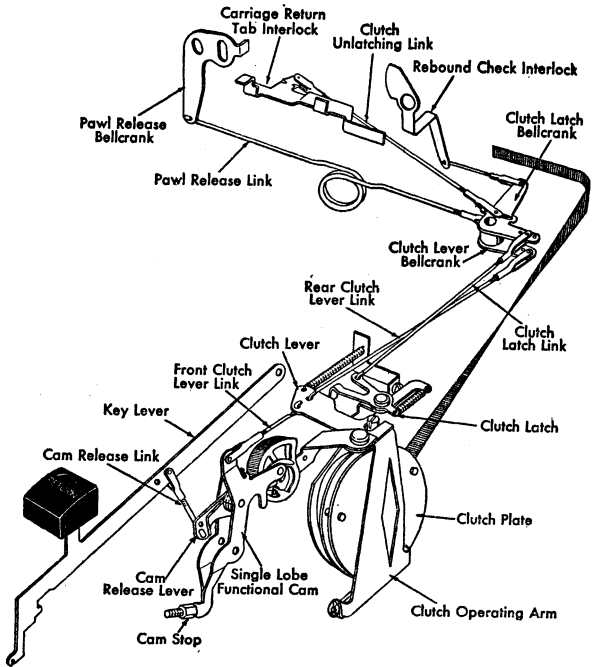

Figure 42. Carriage Return Mechanism
2. **CAM RELEASE LINK.** Place this first in the bottom hole of the cam release lever and in the rear hole of the key lever. Adjust it so that the cam will trip when the key lever is depressed from three-fourths up to and including its full normal travel (Figure 42). When properly adjusted, it will allow the cam to repeat when the key lever has depressed the spring loaded plunger $1/16''$.
clutch lever bellcrank is parallel to the rear rail (Figure 42).
and the clutch latch resting against the clutch lever, adjust the link so that the slot in its bellcrank is parallel to the rear rail (Figure 42).
16. THE PAWL RELEASE LINK should be adjusted so that, with the clutch latched, the escapement pawl will clear the escapement rack by $1/64$ " (Figure 42).